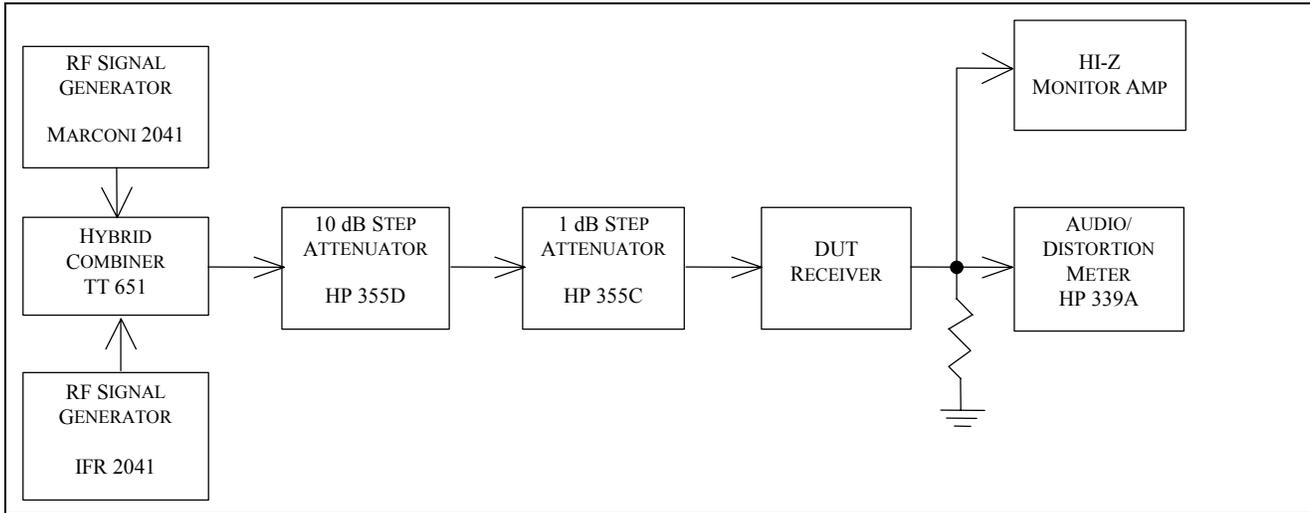

Fig. 5-8 — CW Two-Tone, 3rd-Order Dynamic Range Test Hook-up
5.8.2 Test hook-up (See Fig. 5-8)